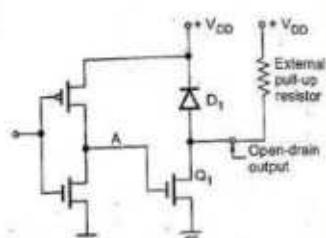

Fig. 3.4.11
- CMOS gates are available with open drain outputs, as shown in Fig. 3.4.11.